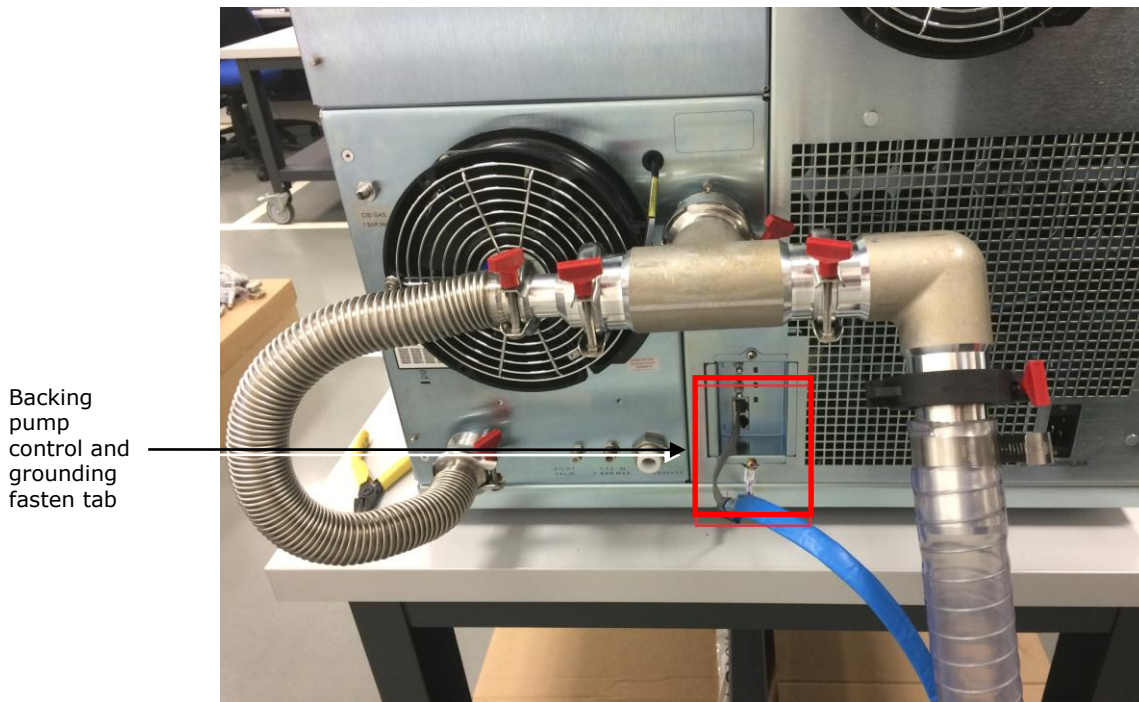

Figure 13 - Backing pump configuration
10. Fit the grounding wire from the pump control cable to the previously attached grounding fasten tab (Figure 13).